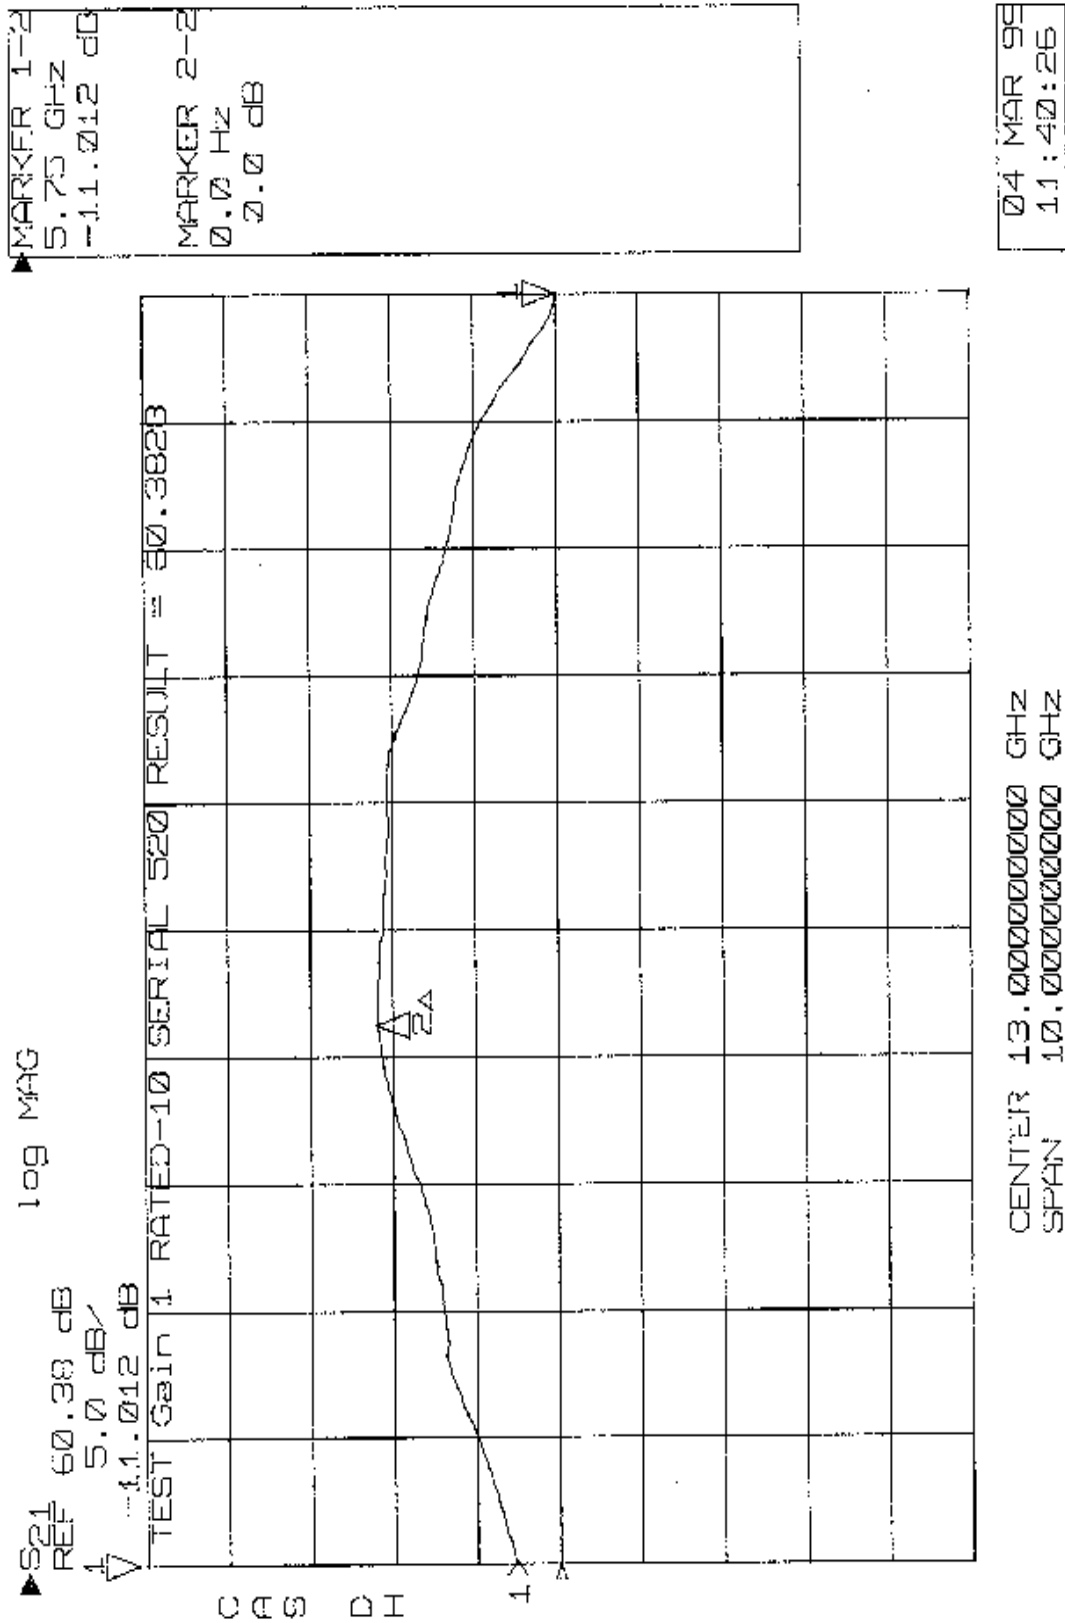

Figure 5. Small Signal Gain Response
Listed below are some typical test data taken on a standard production unit. This data is followed by several graphs in Figures 5.
- 2. Small Signal Gain 60.4 dB min. (See Figure 5)
- 3. SSG Variation 11.0 dB p-p max. (See Figure 5)